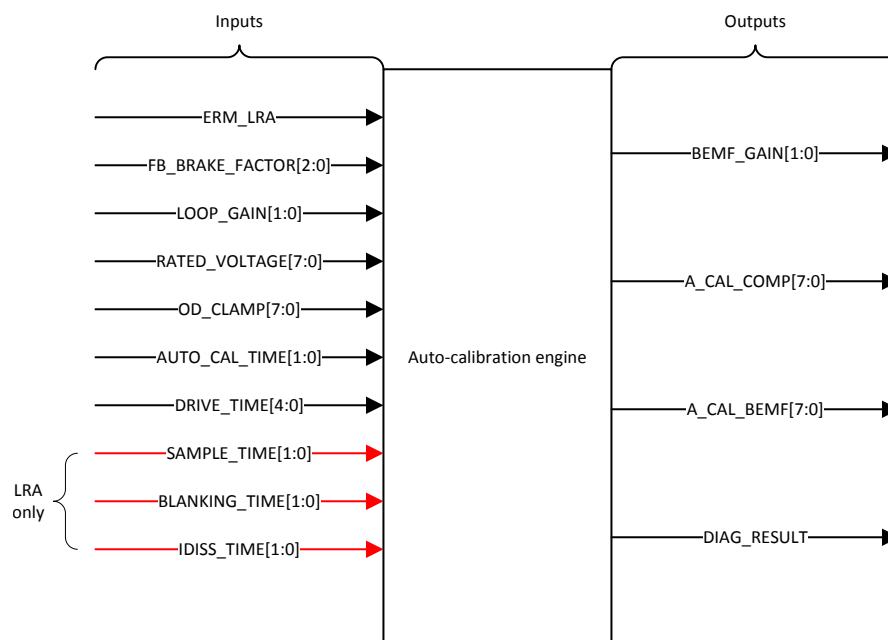

Figure 23. Calibration-Engine Functional Diagram
The calibration engine requires a number of bits as inputs before the engine can be executed (see Figure 23). When the inputs are configured, the calibration routine can be executed. After calibration execution occurs, the output parameters are written over the specified register locations. Figure 23 shows all of the required inputs and generated outputs. To ensure proper auto-resonance operation, the LRA actuator type requires more input parameters than the ERM. The LRA parameters are ignored when the device is in ERM mode.
4. Set the GO bit (write 0x01 to register 0x0C) to start the auto-calibration process. When auto calibration is complete, the GO bit automatically clears. The auto-calibration results are written in the respective registers as shown in Figure 23.